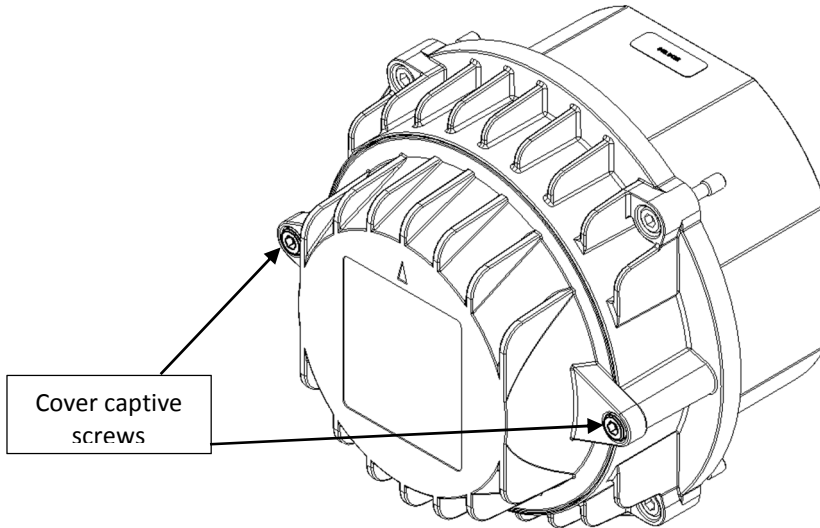

Figure 20: cover with resin embedded electronic to be replaced
- unscrew, in the rear side, the two captive screws of the cover (fig. 20)